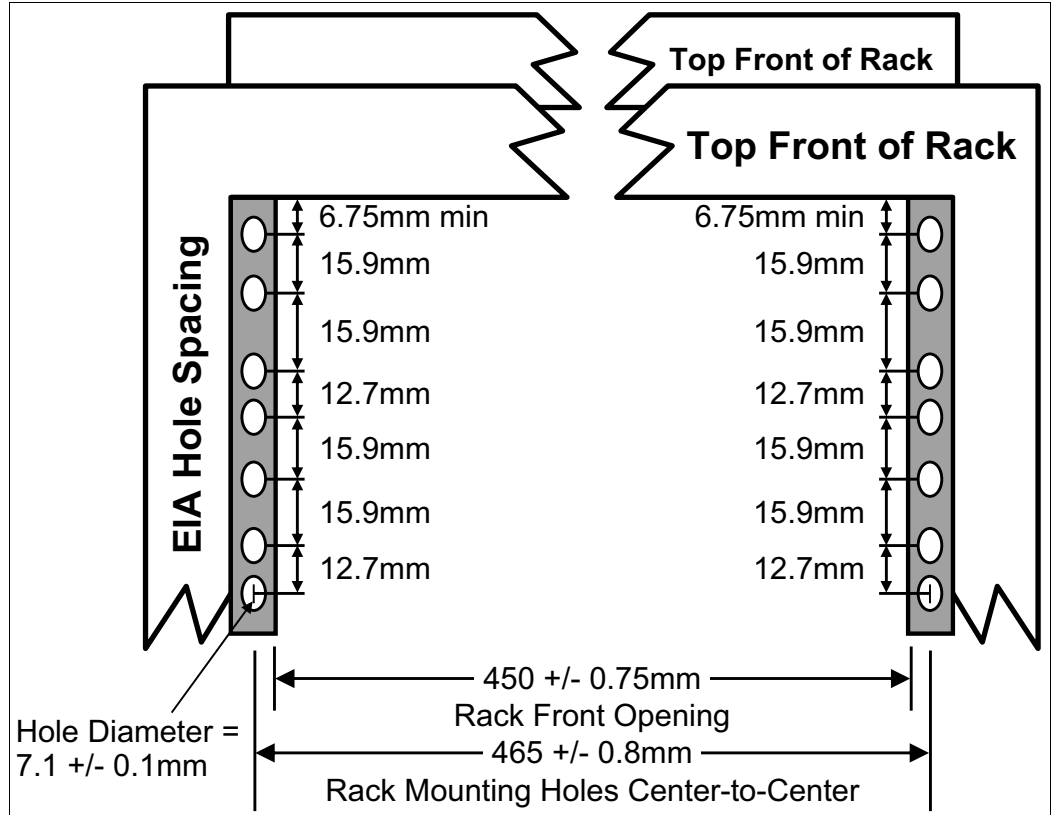

Figure 1-10 Rack specification dimensions top front view
- The vertical distance between the mounting holes must consist of sets of three holes spaced (from bottom to top) 15.9 mm (0.625 in.), 15.9 mm (0.625 in.), and 12.67 mm (0.5 in.) on-center, which makes each three-hole set of vertical hole spacing 44.45 mm (1.75 in.) apart on center. Rail-mounting holes must be 7.1 mm $\pm$ 0.1 mm (0.28 in. $\pm$ 0.004 in.) in diameter. Figure 1-10 shows the top front specification dimensions.